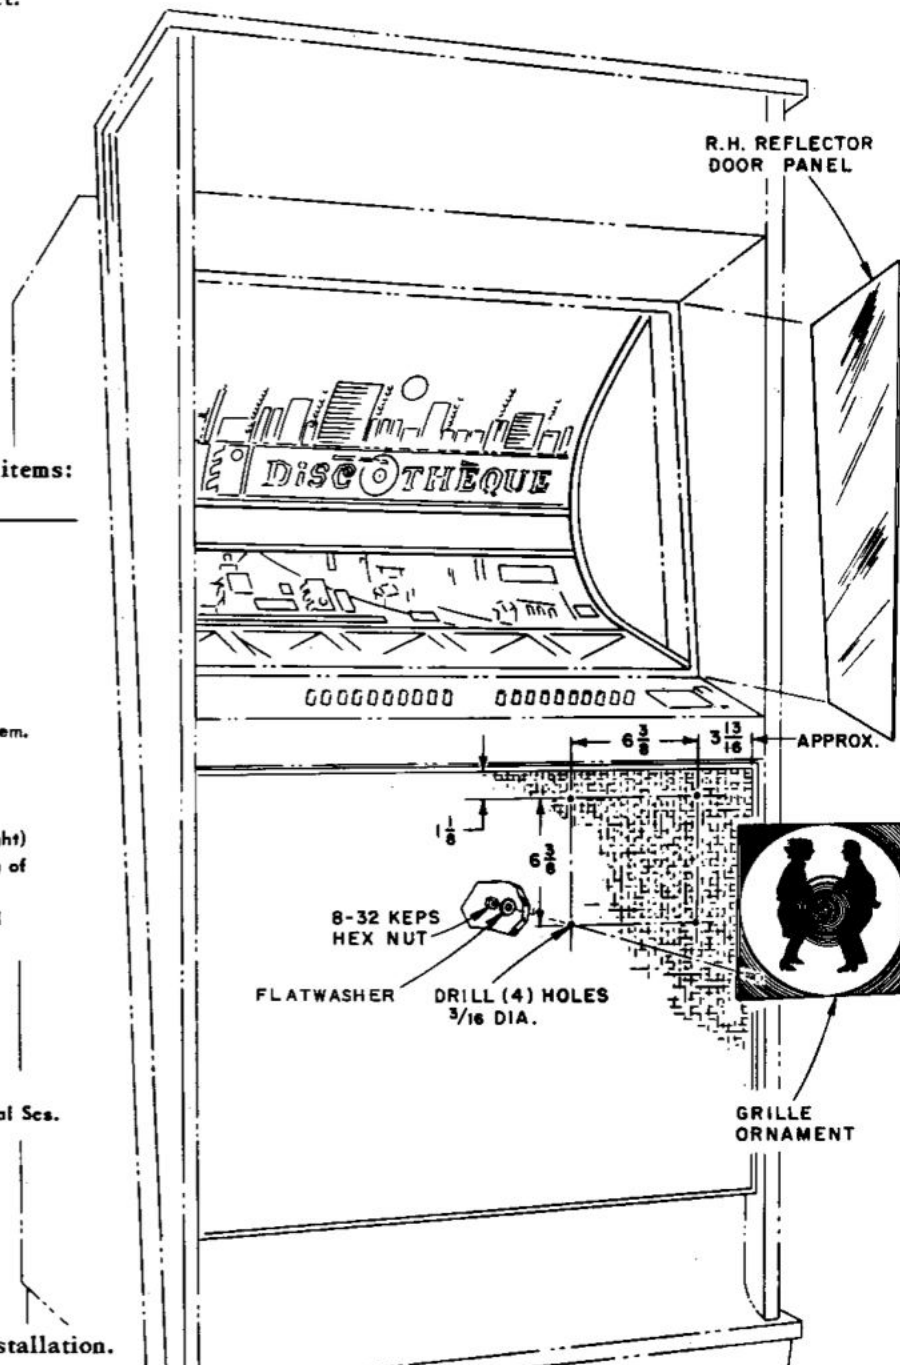

Figure 1.
(see Figures 1 and 2)
26. Before removing yellow backing from right and left reflector door panels, make a test fitting as shown in *Figure 1*, to insure proper fit and position after the backing is removed. Next sandpaper door surface lightly and clean off any grease or dirt with acetone. Now remove yellow backing from panels and affix in
28. Mount grille ornament in place and secure with four 8-32 keps hex nuts and flatwashers, see *Figure 1*. Make finger tight only.